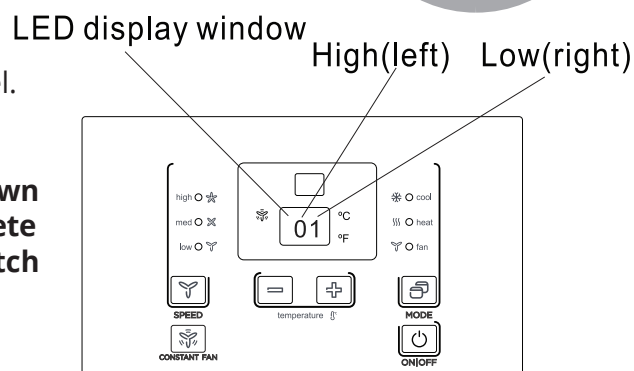

Fig. 4.1
- Press the up (+) and down (-) buttons together for 3 seconds to activate the DIP switch configurations on the control panel. Refer to **Fig 4.1**.
- Display function settings, with 2 digits in the LED display window. The first digit will represent the high (left) for DIP switches. The second digit will represent the low (right) for functions. Please refer to **Fig. 4.1** and the table below.